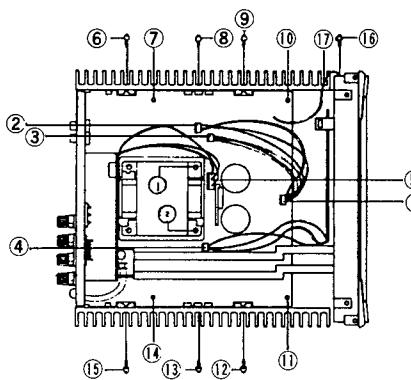

Fig. 5
1. Remove the pcb-2 and power trans (Refer to step ④).
2. Remove connectors ① to ⑤ in Fig. 5, and then remove screws ⑥ to ⑯.
3. Remove screw ⑯ in Fig. 5, and then untie the ground wire ⑰.
4. Remove the pcb-⑯ Fig. 5.
⑦ PCB-②, ⑦(Control PCB)Removal.